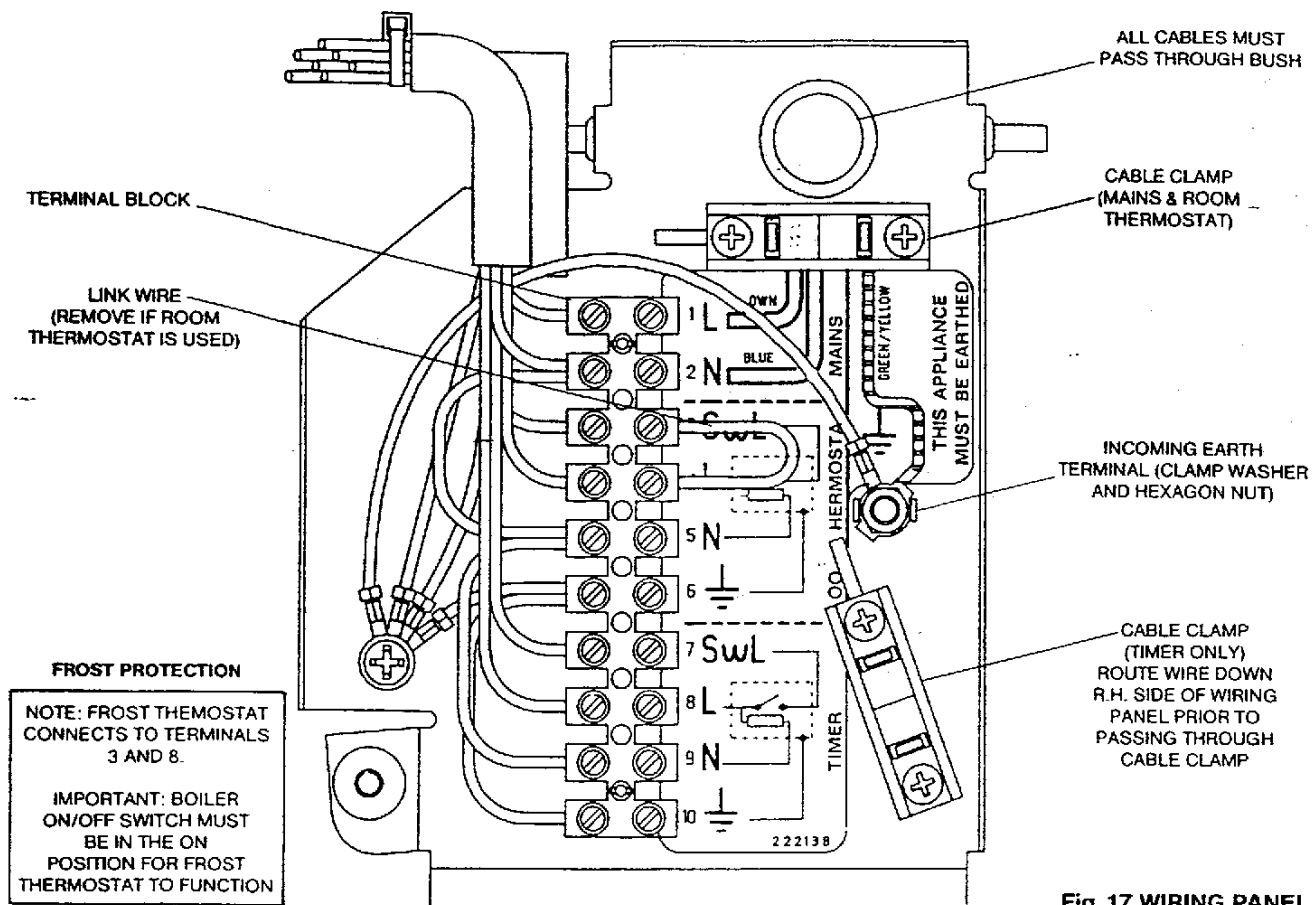

Fig. 17 WIRING PANEL
(See Fig. 17)
- Using PVC insulated cable of not less than 0.75 mm.sq. (24/0.2mm to BS 6500 Table 16), wire up the panel referring to the termination label. (See Fig. 17)